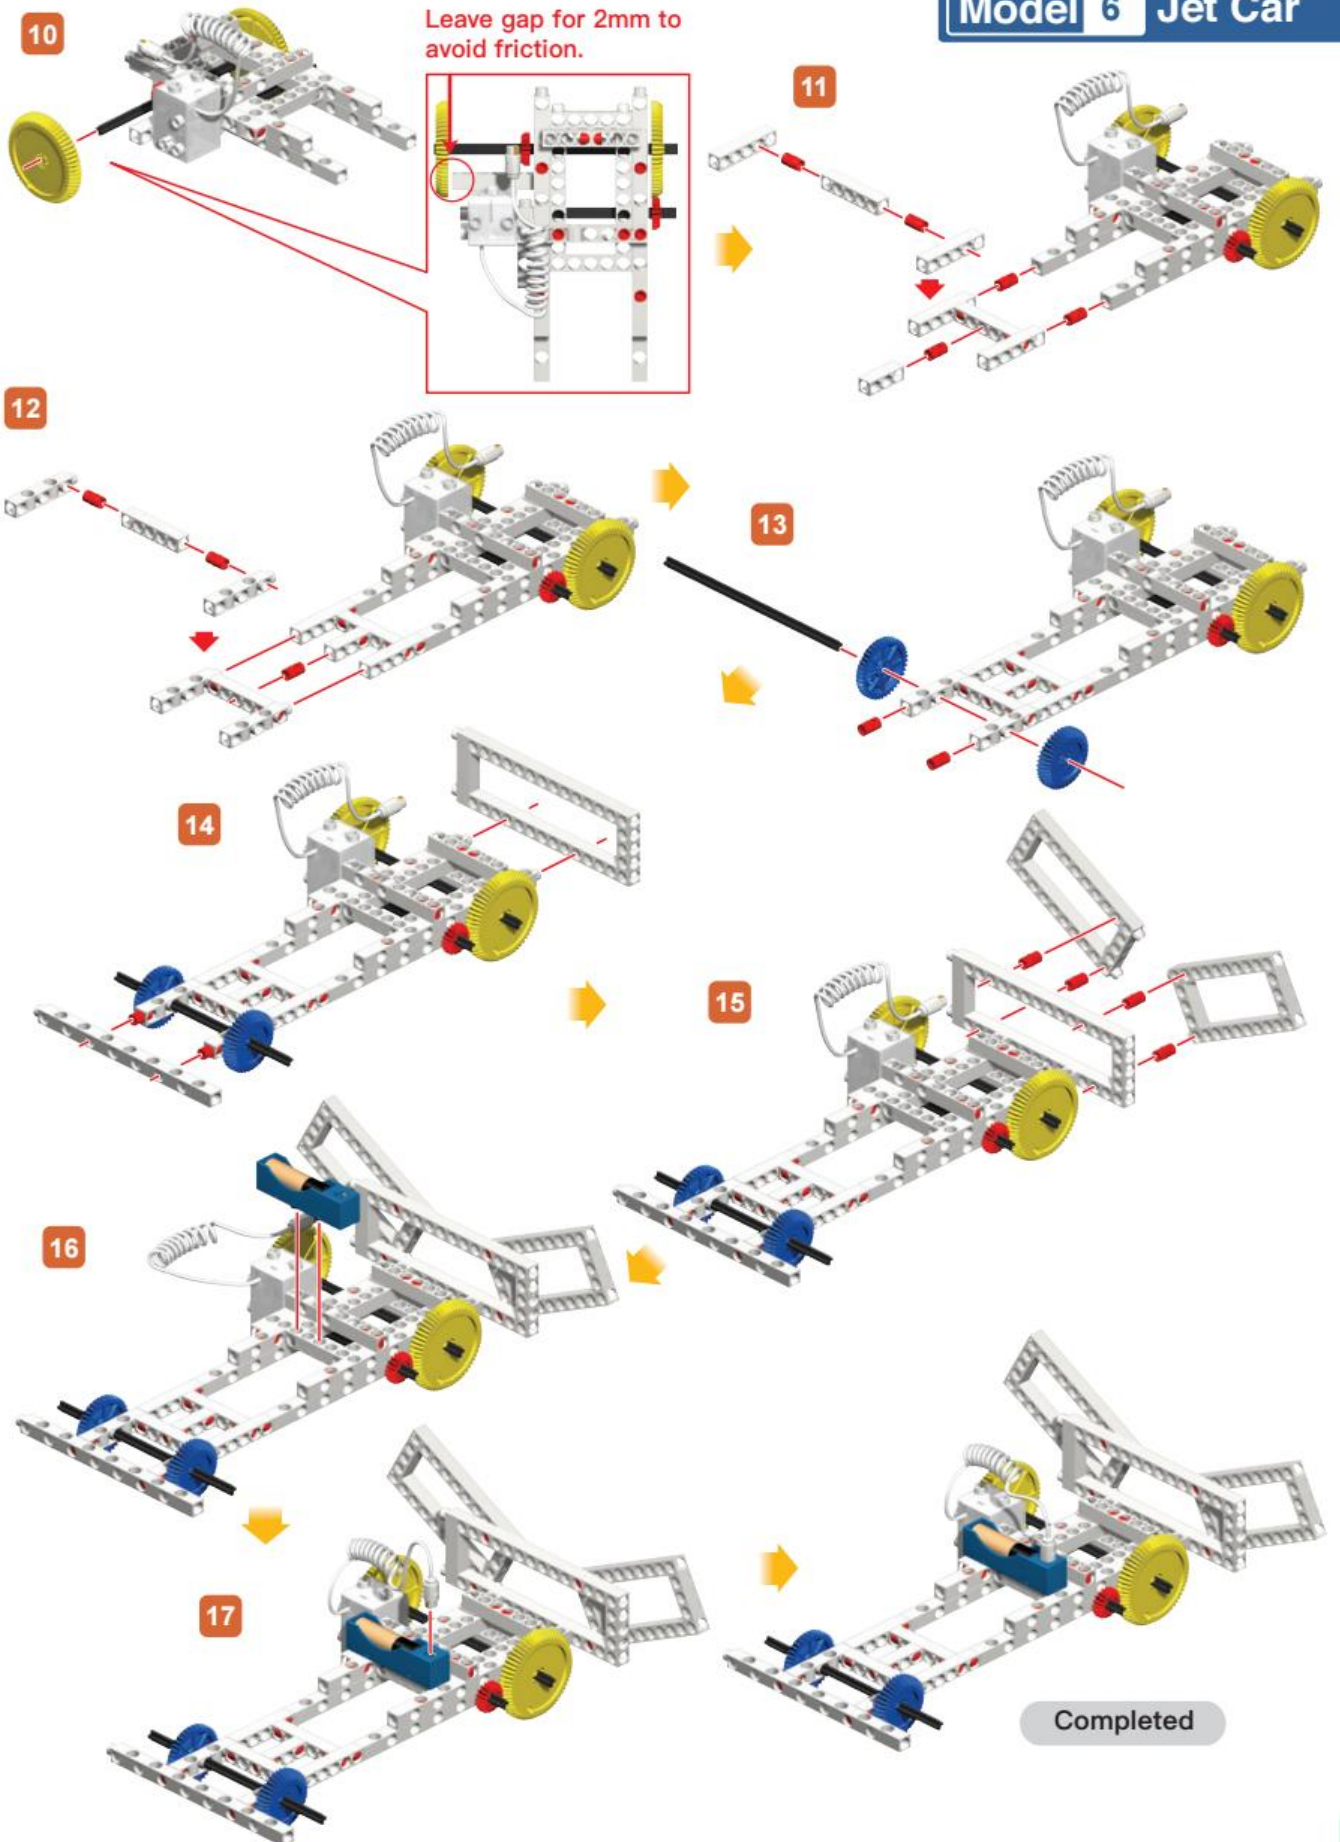

Fig. 62
2. Match the positive pole of the battery to the positive pole of the blue battery holder, and so does the negative pole and then insert the battery as Fig.62 shows.